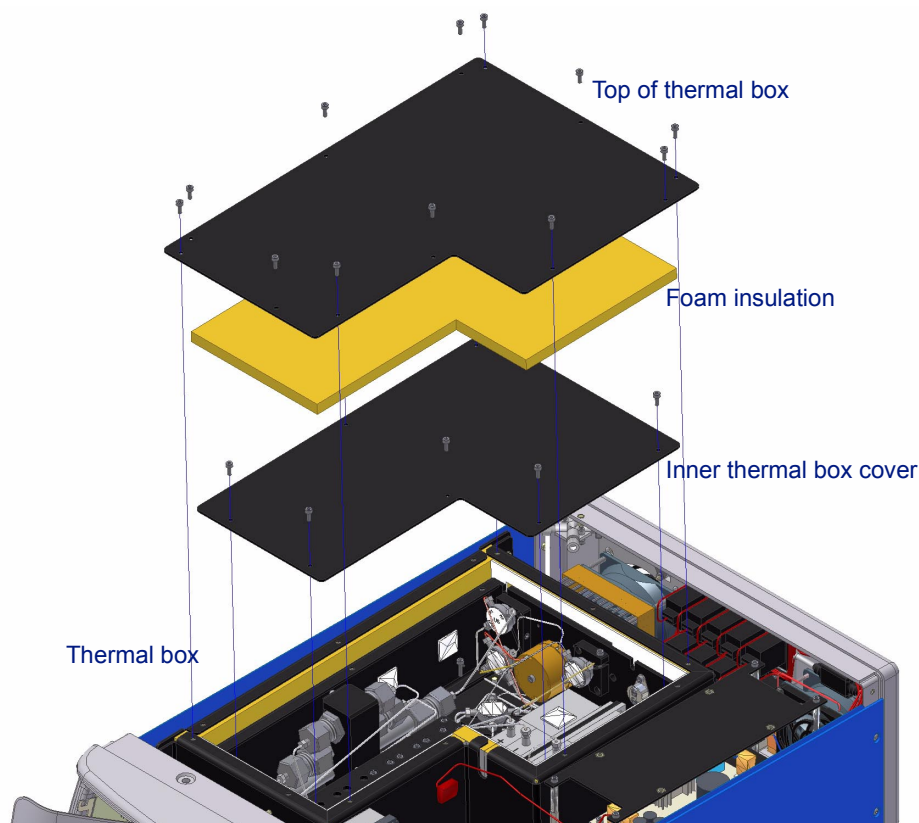

Figure 3-4: Removing the Thermal Box Covers
4. After removing the outer cover, use a 2.5 mm hex driver to remove the top of the thermal box shown in Figure 3-4. Then, remove the foam insulation and the inner thermal box cover.